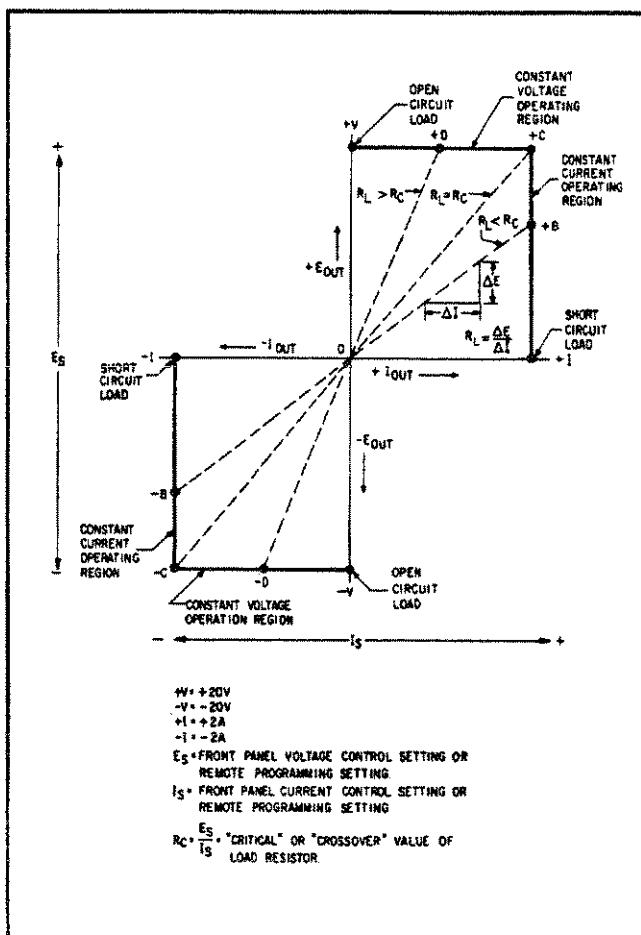

Figure 4-2. CV/CC Operating Locus
**4-16** In order to maintain a constant voltage output, the voltage comparison amplifier tends to achieve zero output impedance by altering the output current whenever the load resistance changes. In order to maintain a constant output current, the current comparison amplifiers attempt to achieve infinite output impedance by changing the output voltage in response to any load resistance variations. Thus, it should be noted that the voltage and current comparison amplifiers cannot operate simultaneously. For any given value of load resistance, the BPS/A must act either as a constant voltage or a constant current supply. Transfer between operation is accomplished automatically by switchable decoupling circuits at a value of load resistance equal to the ratio of the output voltage control (VOLTAGE control or remote voltage programming control) setting and the current control (CURRENT control or remote current programming control) setting. Figure 4-2 shows the output characteristics of a constant voltage/constant current power supply when operated within the bipolar output voltage and current ranges. With no load attached ( $R_L = \infty$ ),  $I_{OUT} = 0$ , and  $E_{OUT} = E_S$ , the front panel voltage or remote program-